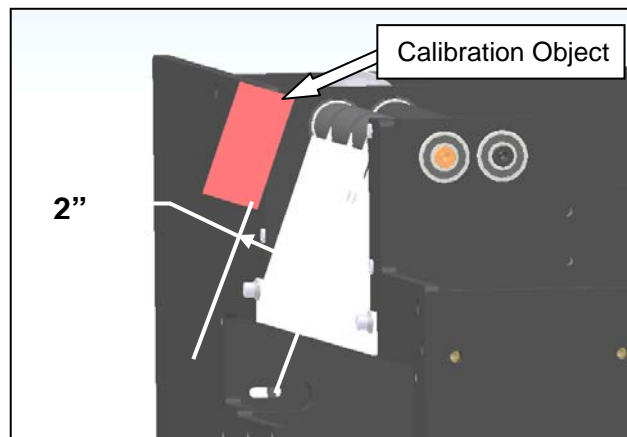

Figure 3-146. Calibrating the Photoelectric Sensor
1. Place a solid object 2" from the front finger plate of the machine, being careful to keep it parallel to the plate. The object should be located such that the sensor beam hits the object. (See Figure 3-146).